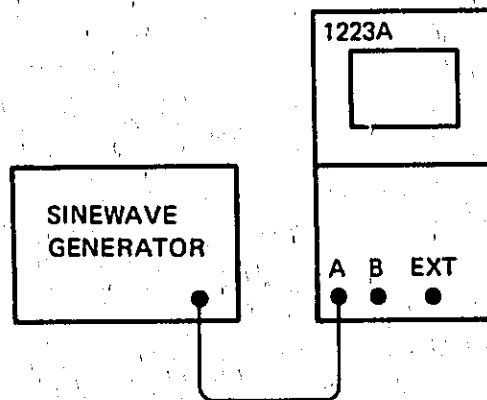

Figure 4-11. Writing Speed and Store Time Test Setup.
1. Connect the Sinewave Generator to the 1223A as shown in figure 4-11 and set the 1223A controls as follows: